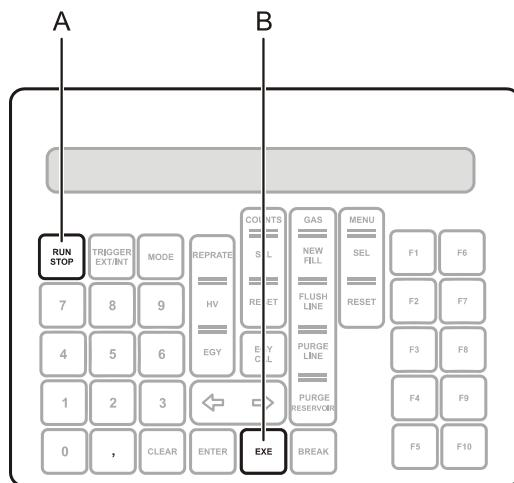

Figure 64: Starting the laser through the handheld keypad
4. Press <RUN/STOP> (see Figure 64, A).